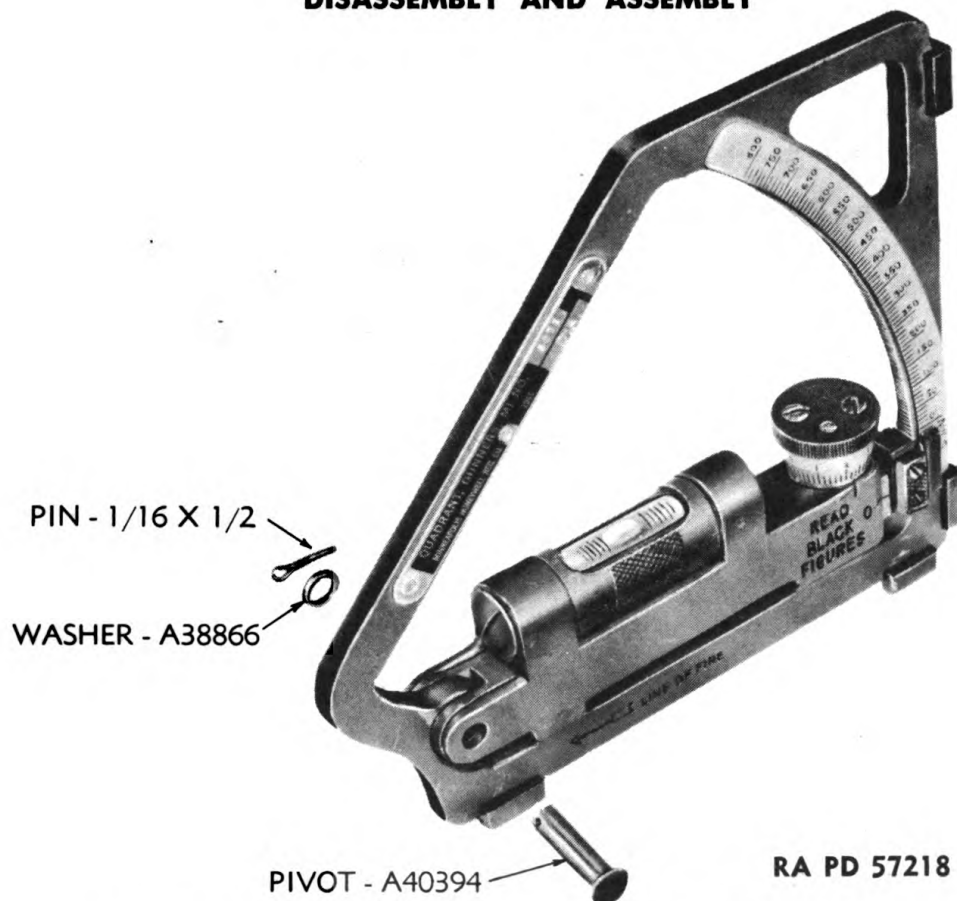
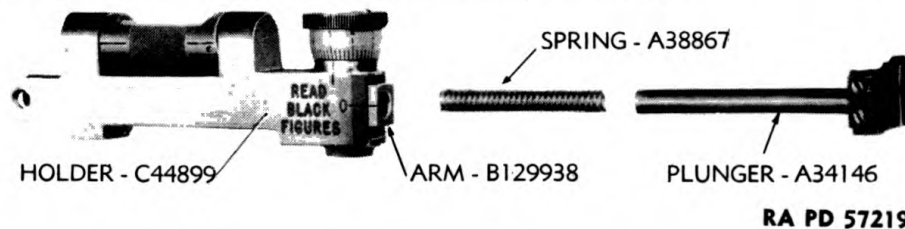
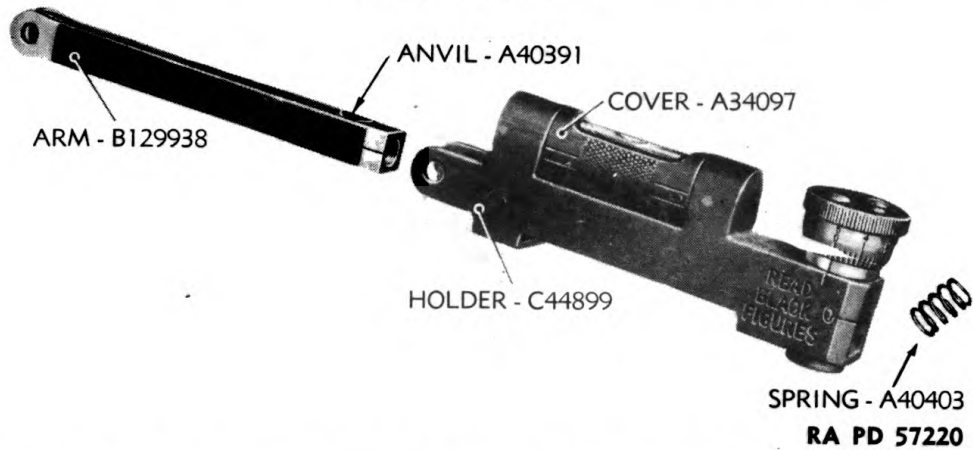

Figure 6—Gunner's Quadrant M1—Pivot Removed
Figure 7—Gunner's Quadrant M1—Plunger and Plunger Spring Removed
Figure 8—Gunner's Quadrant M1—Arm and Compression Spring Removed
(a) Remove the cotter pin from the pivot on the back side of the instrument and remove the brass washer (fig. 6).
(2) **REMOVE PLUNGER FROM ARM** (fig. 7). Slide out plunger and plunger spring from arm.
(3) **REMOVE ARM FROM LEVEL HOLDER** (fig. 8).
(6) Push level tube assembly, slotted end first, into level holder and through level vial cover. Aline slot in level tube with pin BFDX1AA in level holder and continue to push level tube in until it is seated.
(7) Insert the four headless cone point adjusting screws. **NOTE:** These screws are used in making the final adjustments of the level vial, and should not be tightened at this time. Plug at the end of the level holder is to be installed after the final level vial adjustment has been made.
e. Install Arm in Level Holder (fig. 8).
- (1) Insert compression spring in position below micrometer.
- (2) Push arm with arm anvil facing up, through level holder at the pivot end, and continue pushing arm until pivot holes in arm line up with pivot holes in level holder.
f. Install Plunger in Arm (fig. 7).
- (1) Drop plunger spring into arm.
- (2) Coat the plunger stem with a thin film of OIL, lubricating, for aircraft instruments and machine guns, and place plunger stem into arm.
g. Install Arm and Level Holder in Frame (fig. 6).
- (1) Turn plunger in arm so that beveled plunger plate edges face upward.
- (2) With plunger, compress the plunger spring and arm about zero on the elevation scale. Push level holder and arm into position over frame. Do not release plunger until all pivot holes are lined up.
- (3) Apply one or more drops of OIL, lubricating, for aircraft instruments and machine guns, to pivot and drive pivot through holes from front of quadrant.
- (4) Place brass washer over pivot in back of quadrant and secure pivot with cotter pin.